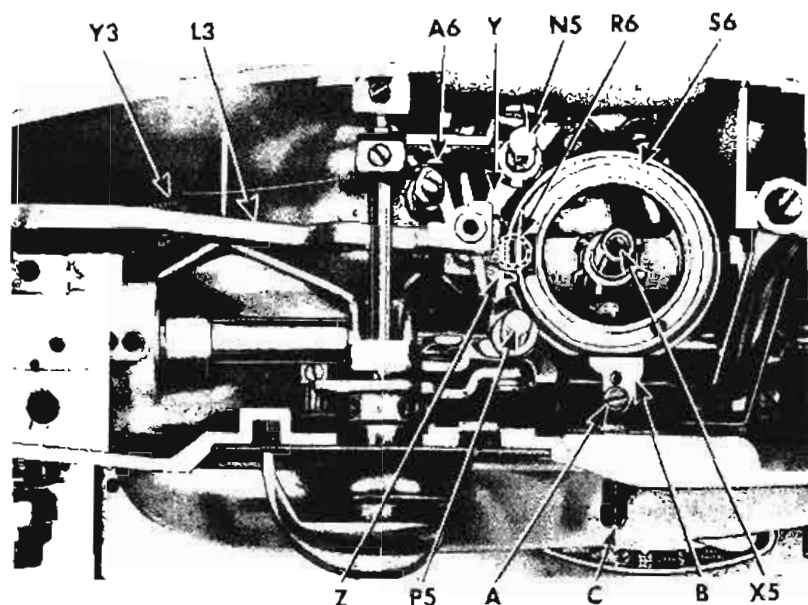

Fig. 68. Location of Ball Pivot on Driving Arm
chine so that ball pivot R6 rides in socket provided for it in pattern selector S6, as shown in Fig. 68.
**CAUTION:** Make certain that tension arm A6 is in correct position in relation to driving arm L3, as shown in Fig. 68.
3. Remove spring Y3, Fig. 68.
2. Make certain that driving arm ball pivot R6 is engaged with pattern selector S6, as shown in Fig. 68.
5. Replace spring Y3, Fig. 68.